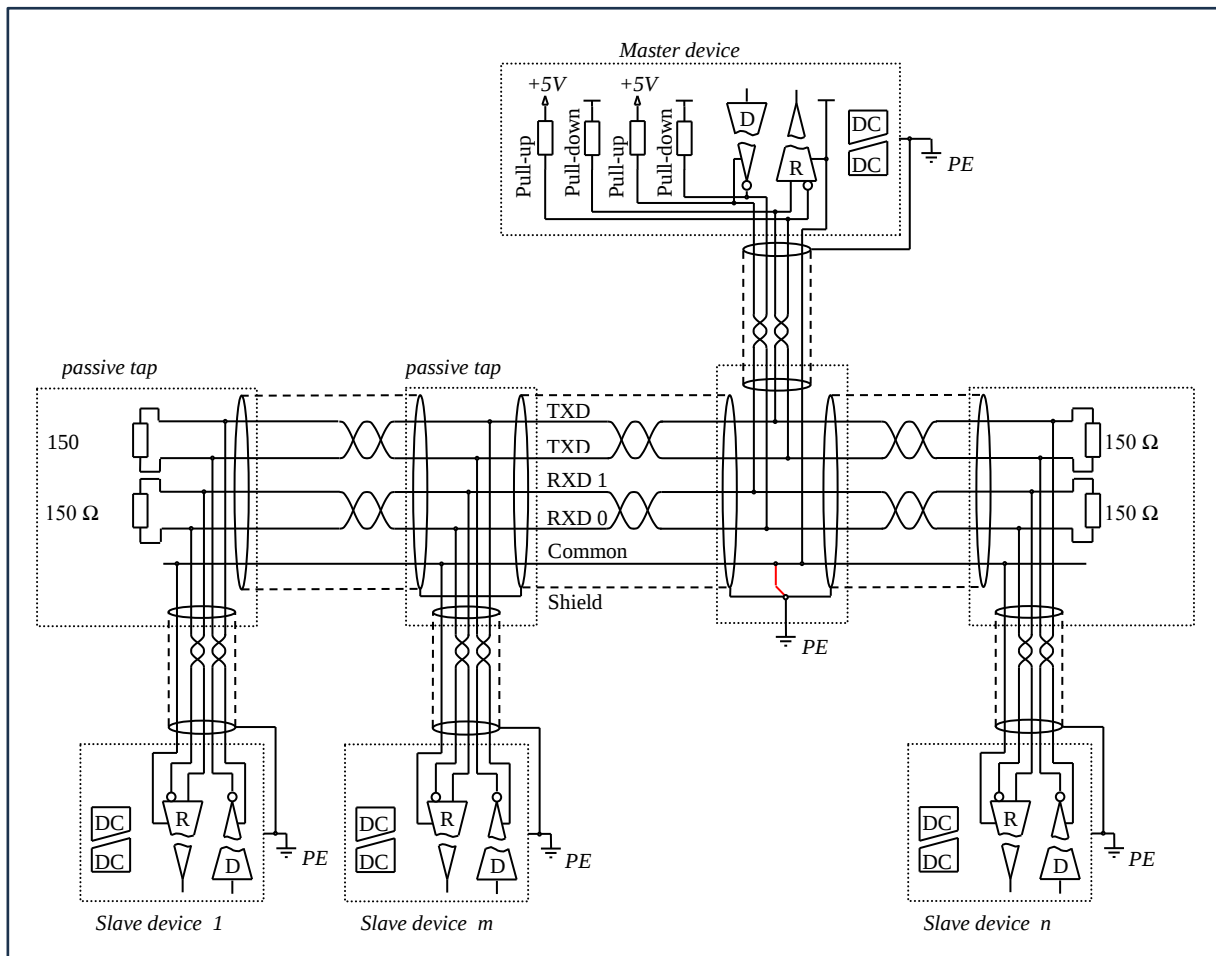
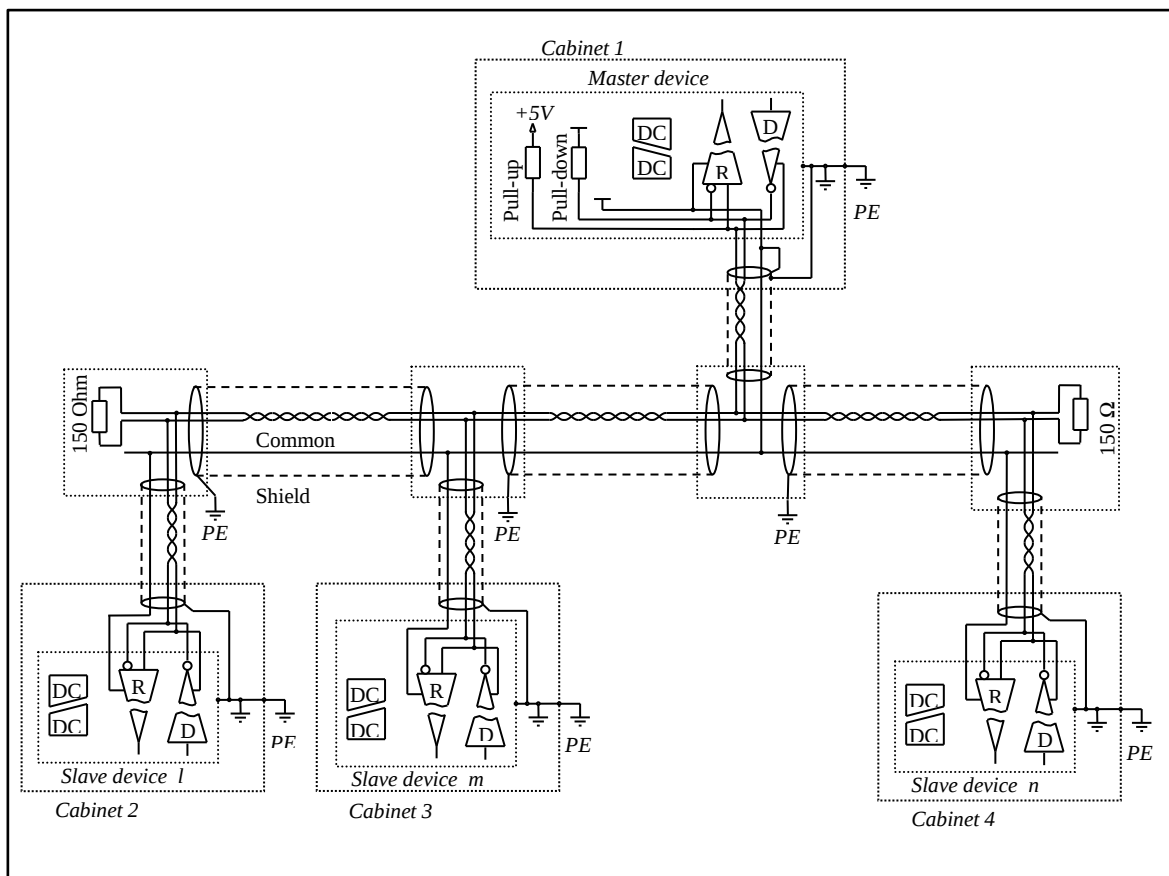
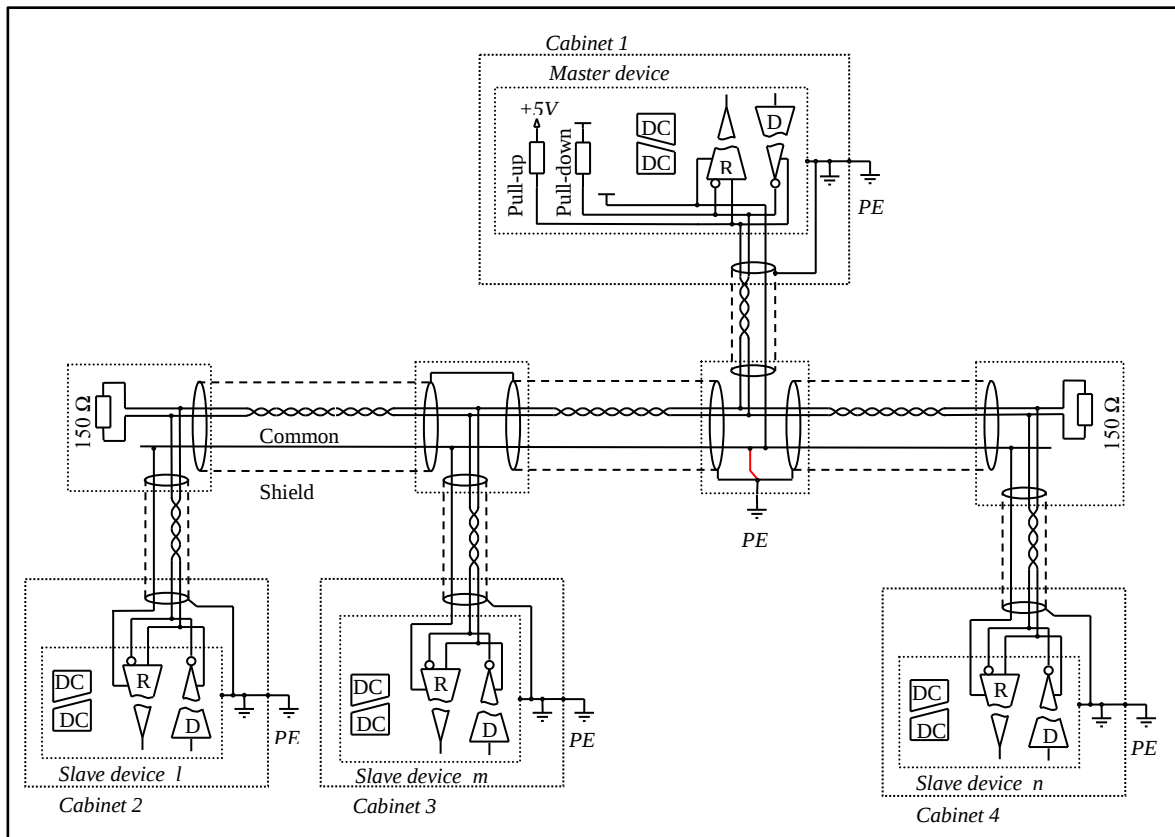
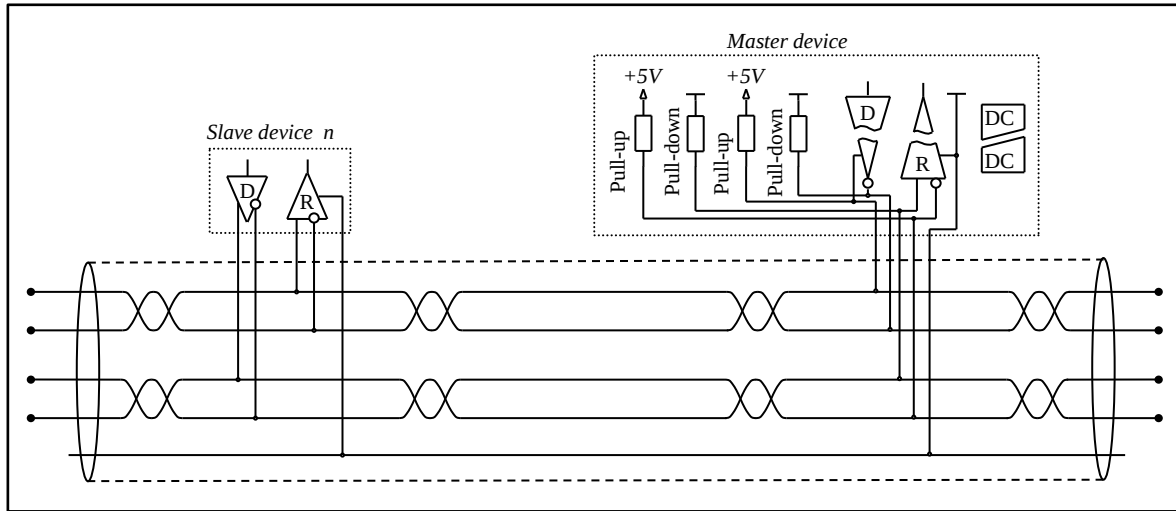

Figure 5: Signal definition – four-wire-system
Figure 7: Reference potential and shield
Figure 8: Reference potential and shield
Figure 10: Line polarization in a four-wire-system
Following Table 5 defines the signals of **Figure 5**.
The Modbus standard requires this line to be connected with the protective earthing conductor (PE – Protective Earth) preferably on the master or on its tap. There is only one single earthing point allowed. This rule is observed by the examples in **Figure 4**, **Figure 5**, **Figure 7** and **Figure 8**.
According to this standard, the shield of every cable must be connected at one end to the protective earthing conductor (PE). The shield of any cable is to be connected either to the shield of the other cable or at one of its extremities to protective earthing. The admissible variants are shown in **Figure 4**, **Figure 5**, **Figure 7** and **Figure 8**.
These rules are observed by the examples in **Figure 4**, **Figure 5** and **Figure 8**.
- DC termination should be preferred. It is depicted both in **Figure 4** and **Figure 5**.
- in the passive tap at the bus end (see **Figure 4** and **Figure 5**)
For all polarization resistors identical values should be chosen that may range from 450 ... 650 Ω . Polarization requires a 5 V DC supply. A detailed configuration of the polarization is depicted in **Figure 10** and outlined in **Figure 4** and **Figure 5**.